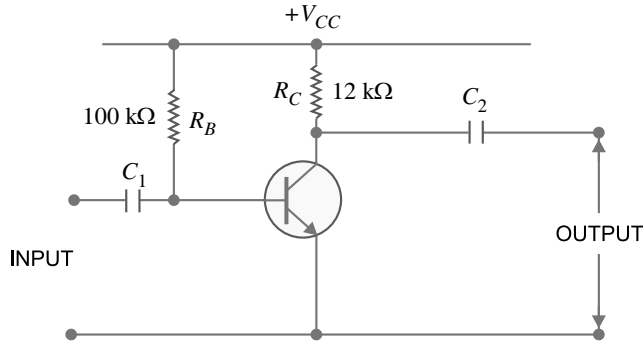
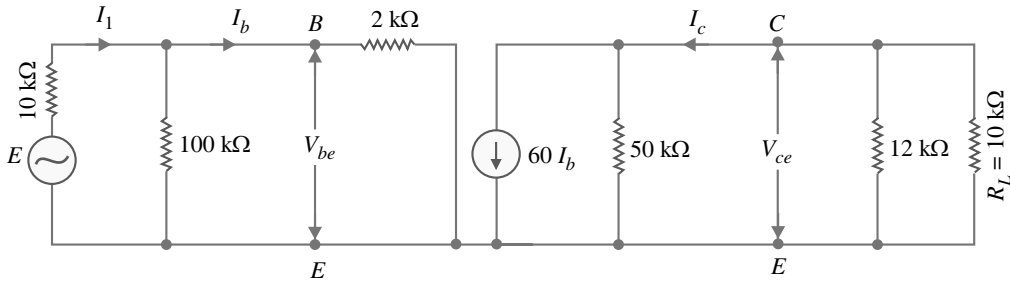

Fig. 22.12
Fig. 22.13
**Example 22.5.** The transistor used in the circuit shown in Fig. 22.12 has the following  $h$  parameters :
**Solution.** The hybrid a.c. equivalent circuit of Fig. 22.12 is shown in Fig. 22.13. Note that voltage source  $h_{re} V_{ce}$  in the input circuit is not shown because  $h_{re}$  is negligible.